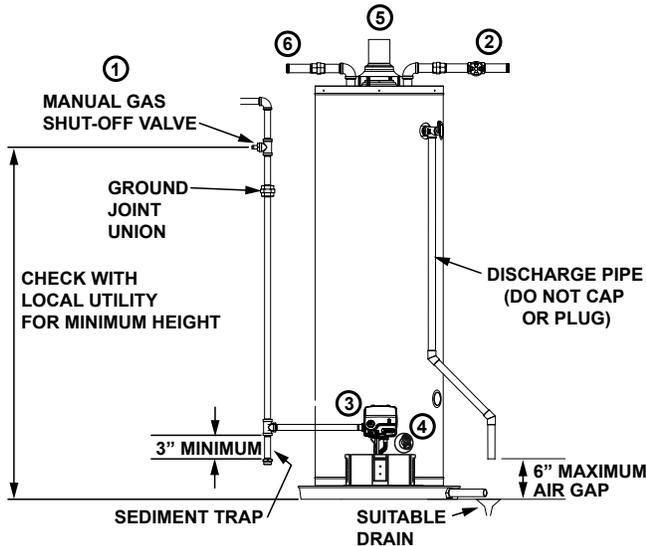

FIGURE 2.
If the main gas line shutoff valve serving all gas appliances is used, also shut "OFF" the gas at each appliance. Leave all gas appliances shut "OFF" until the water heater installation is completed. See Figures 2 and 3.
- ② Open a nearby hot water faucet until the water is no longer hot. When the water has cooled, turn "OFF" the water supply to the water heater at the water shut off valve or water meter. Some installations require that the water be turned off to the entire house. See Figures 2 and 4.
- ③ Check again to make sure the gas supply is "OFF" to the water heater. Then disconnect the gas supply connection from the gas control valve.
- ④ Attach a hose to the water heater drain valve and put the other end in a floor drain or outdoors. (See Figures 2 and 5.) Open the water heater drain valve.